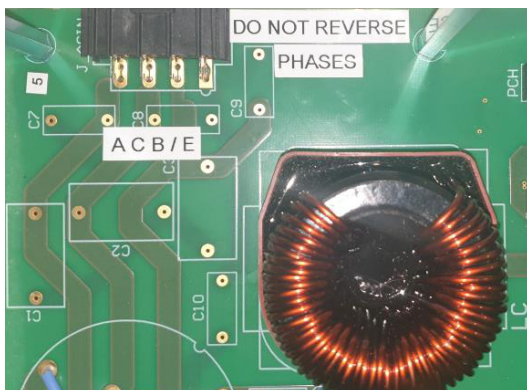

Figure 4.
**WARNING:** When operating the PFC-3PH-11-OBC-EVB the A, B and C phases should always be connected according to the sequence indicated on the board and never be reversed (see Figure 4 below for reference). The output of the PFC-3PH-11-OBC-EVB should be loaded ONLY when the output DC bus voltage of the PFC is stable around 700 V  $\pm 5\%$ , which is the internally set voltage reference.